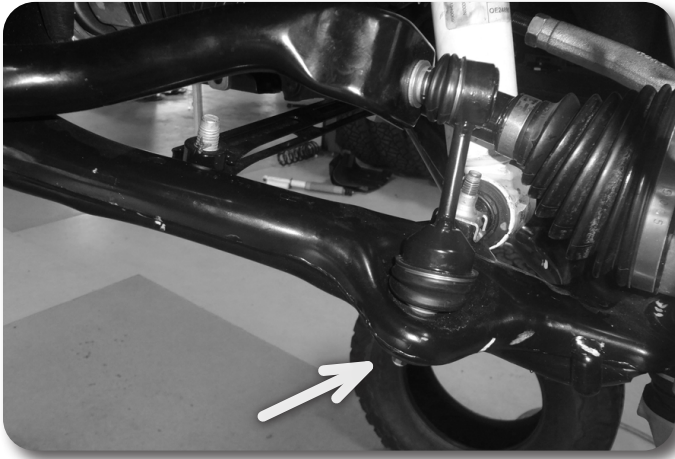

Figure 1
4. Disconnect the front driver's and passenger's side sway bar links from the lower control arm (18 mm). Save hardware. **Figure 1**